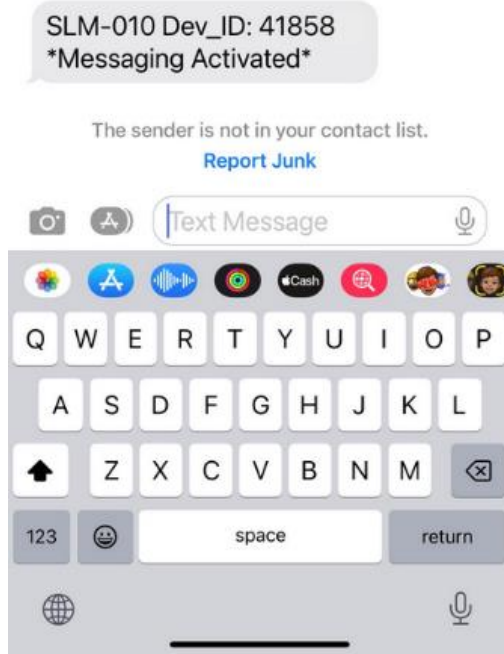
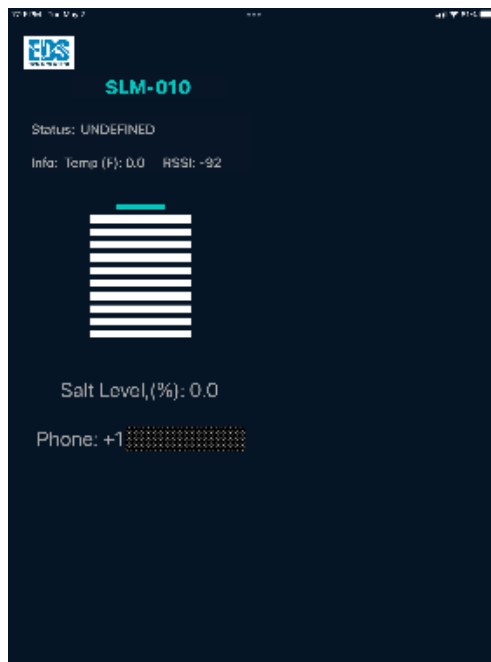

Figure 7 Activation Message
Figure 8 Message Phone number indication at start (iPad screenshot)
During application start up, the activation message will be sent to your indicated phone number (see Figure 7) and the phone number will be shown on application front panel for approximately 5 seconds (see Figure 8).
5. If phone number is presented in SLM-010 contacts, the activation message will be sent to indicated phone number (see Figure 7) and the phone number will be shown on application front panel for approximately 5 seconds (see Figure 8).